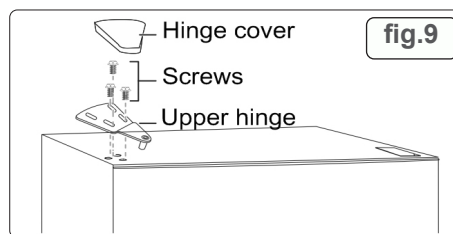

fig.9
- 10. Relocate the door bushing from the top right to the top left side of the door, and move the left hole cover to the right side. (fig.9).
- 11. Remove the hole cover from the top left side of the cabinet and install it on the top right side. (fig.9).